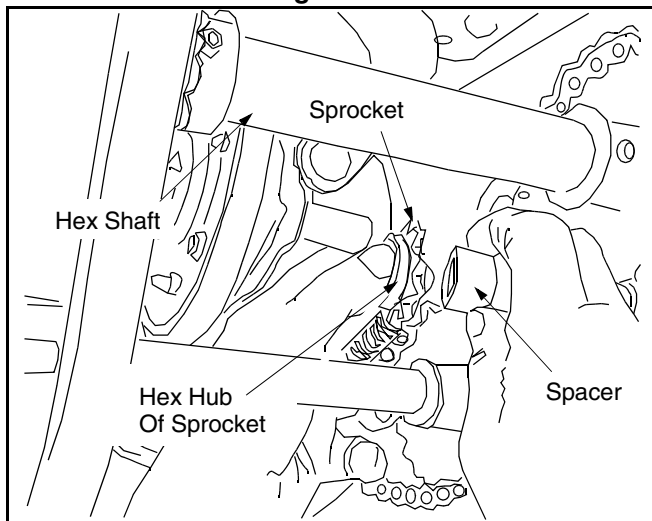

Figure 24
- Insert the hex shaft through the sprocket and the spacer. Make certain that the chain engages both the large and the small sprocket. See Figure 24.
NOTE: If the sprocket fell from the snow thrower while removing the hex shaft, place the sprocket on the hex shaft. Position the hex hub of the sprocket toward the friction wheel when sliding the sprocket on to the hex shaft. See Figure 24.